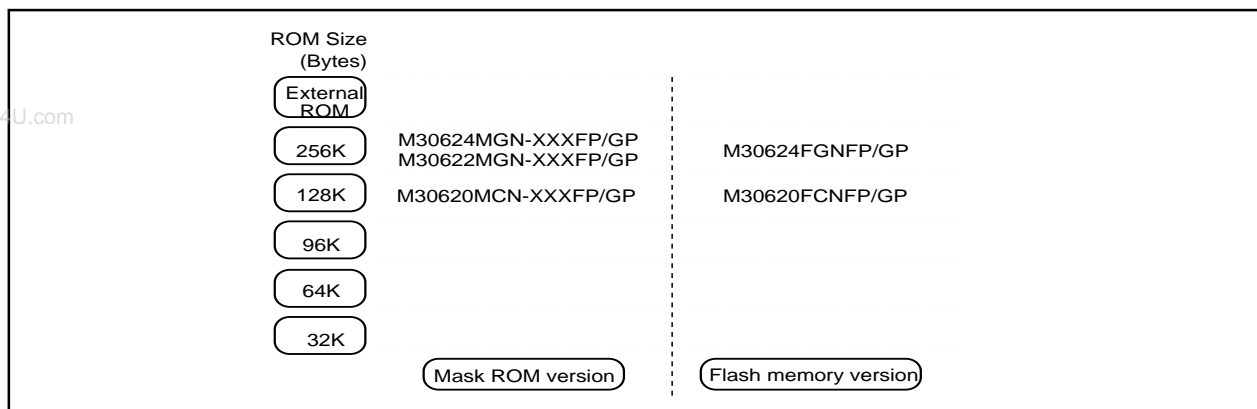

Figure 1.1.4. ROM expansion
- Memory capacity ROM (See Figure 1.1.4. ROM Expansion)